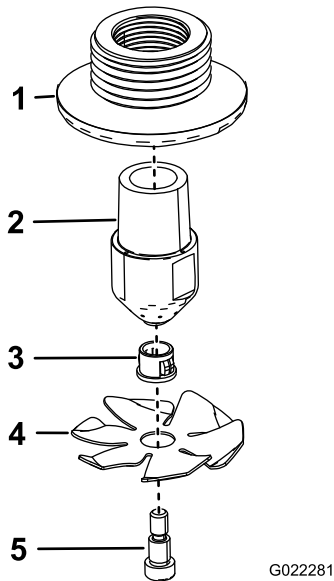

Figure 17
1. Assemble the 2 rinse nozzles as shown in Figure 17.